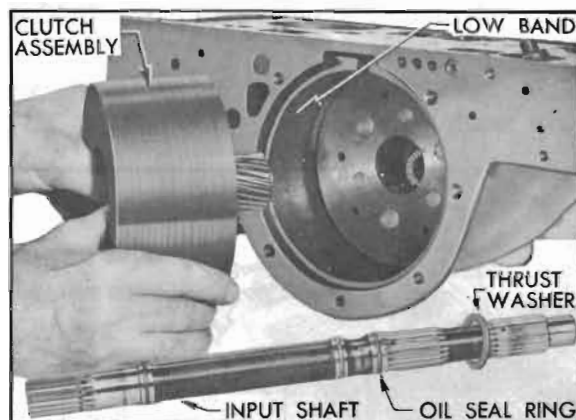

Figure 5-34—Removal of Clutch Assembly
6. Pull the input shaft and clutch hub front thrust washer from the clutch assembly, then remove the clutch assembly. See figure 5-34.